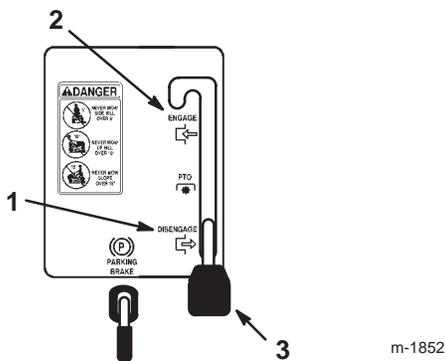

Figure 5
2. Shift the blade control (PTO) lever to Engaged (Fig. 5).